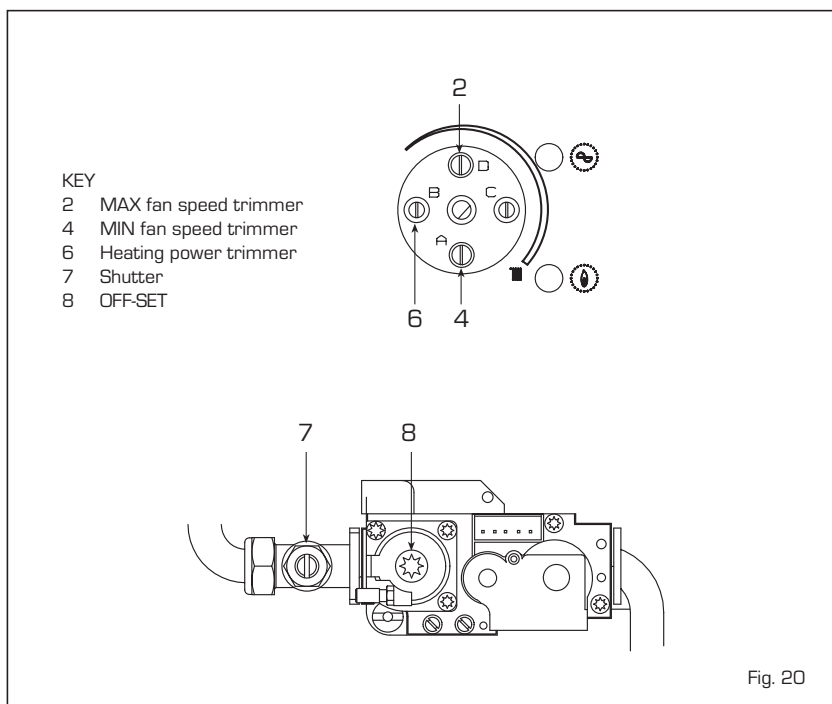

Fig. 20
#### 4.4 CALIBRATION PROCEDURE IN HEATING PHASE USING HERTZ (fig.20)
##### Sequence (Fig. 20)
- Adjust the maximum air pressure using fan speed trimmer D (2 fig. 20).